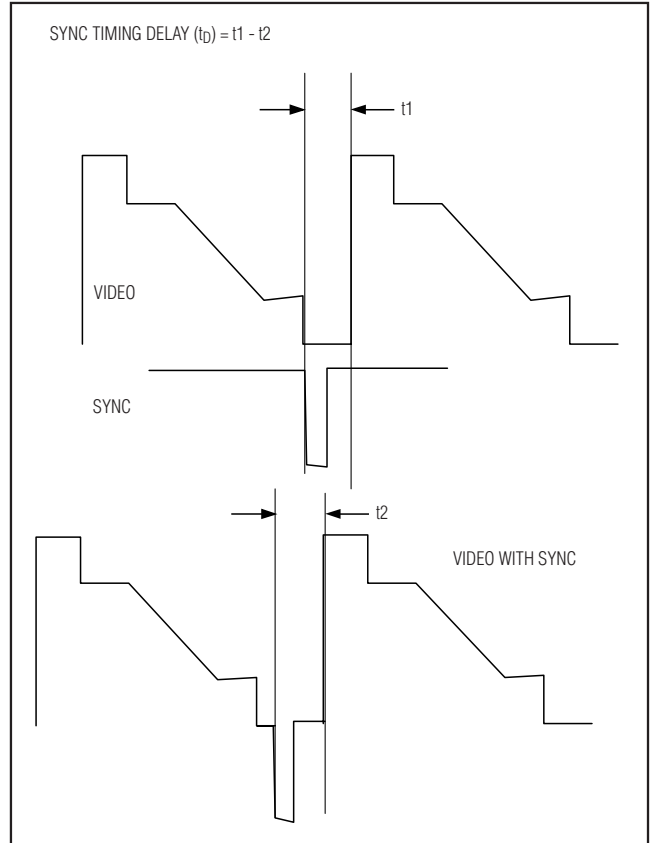

Figure 1. Sync Timing Delay (tD) = t1 - t2
**Note 5:** The sync timing error is measured as follows: The input signals are measured from the falling edge of H sync/V sync to the start of active video, called  $t_1$ . The output signal is then measured from the falling edge of H sync/V sync to the start of active video, called  $t_2$ . All measurements are at the 50% points as shown in Figure 1.